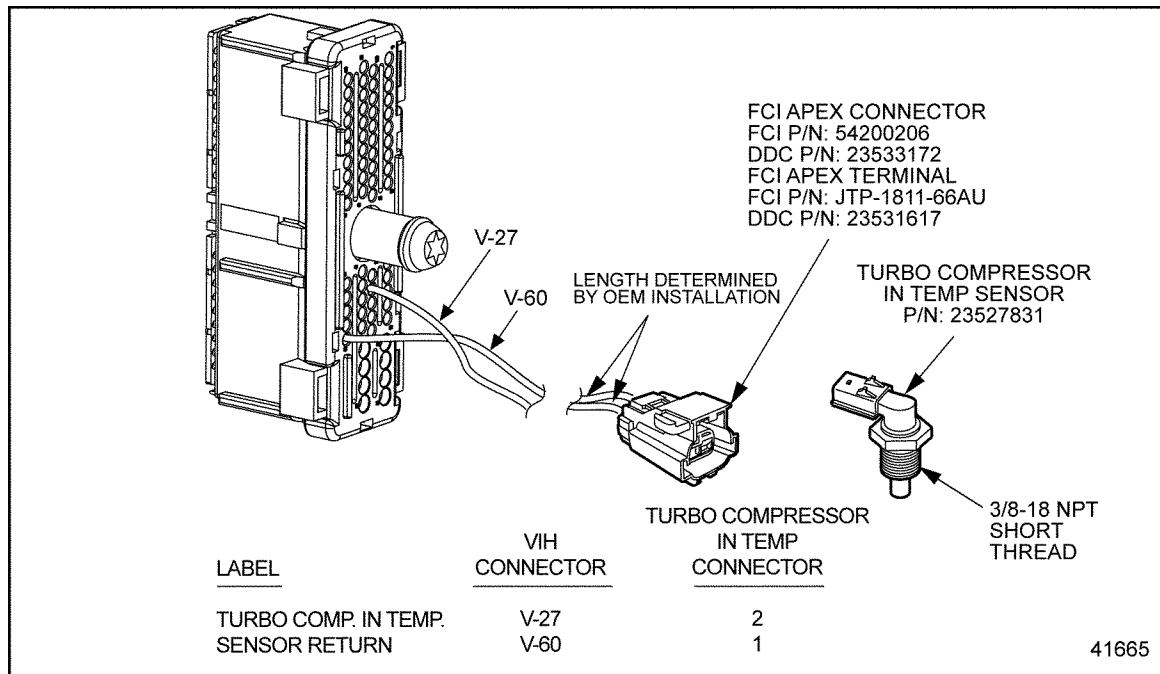

Figure 50-1 TCI Sensor and Connector
4. Check the connectors for damaged, bent or broken pins. See Figure 50-1.
- [b] If the wire was not open, replace the TCIT Sensor (see Figure 50-1). Then refer to section 50.2.2.1.